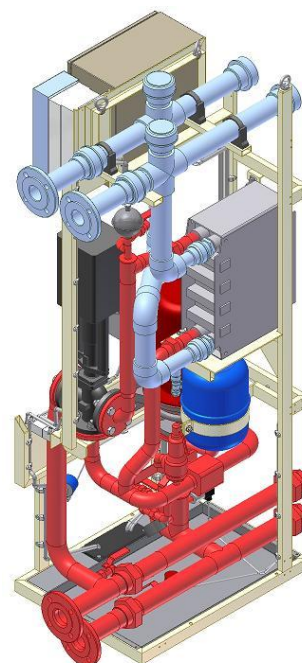

Figure 2.2-1
- Primary circuit, HXS070-PS01 (red colour in the Figure 2.2-1)
- Secondary circuit, HXS070-P002 (blue colour in the Figure 2.2-1)